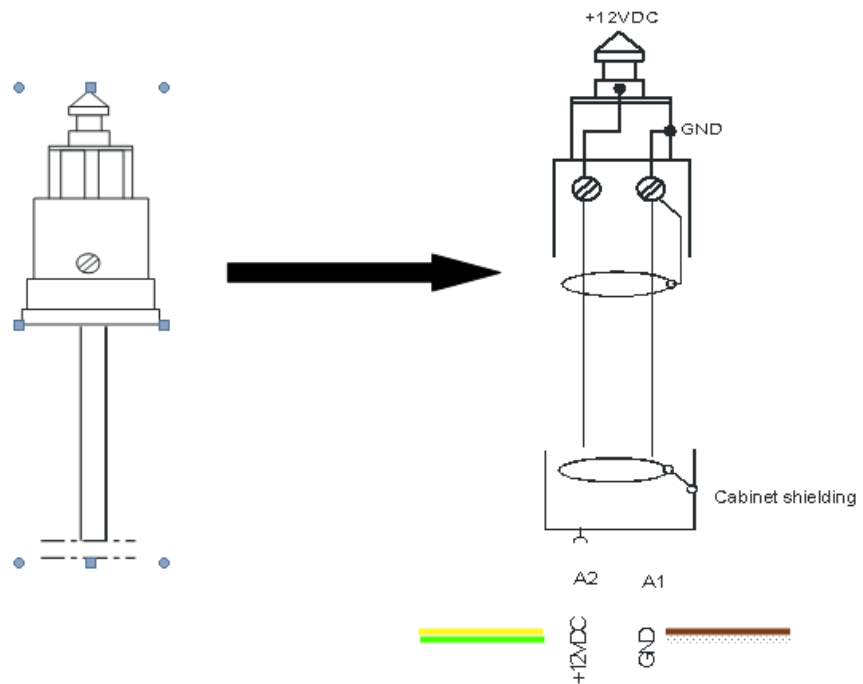

Figure 3-1: Supplied power cable with cigarette lighter adapter
3. Connect the open ends of the cable to the DC power supply. Ensure that the polarity is correct (see Figure 3-1).